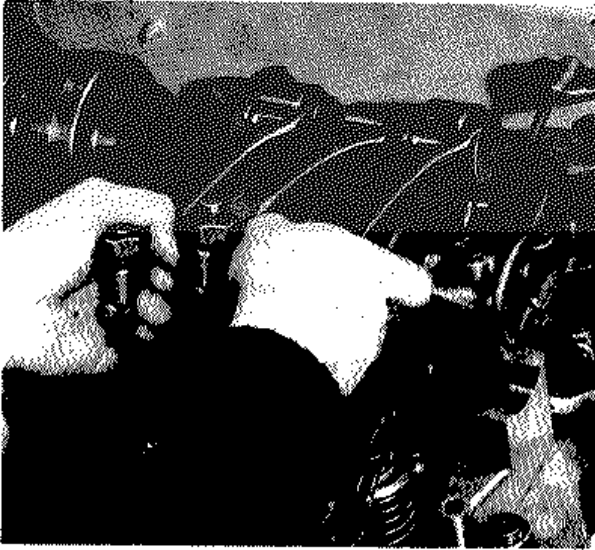

Fig. 5-23 - Rocker Arm Shaft Installation
76. Lubricate the shaft studs with Texaco Threadtex No. 2303 and install the rocker arm shaft assembly, Fig. 5-23. Apply the shaft caps with the short toe facing out.